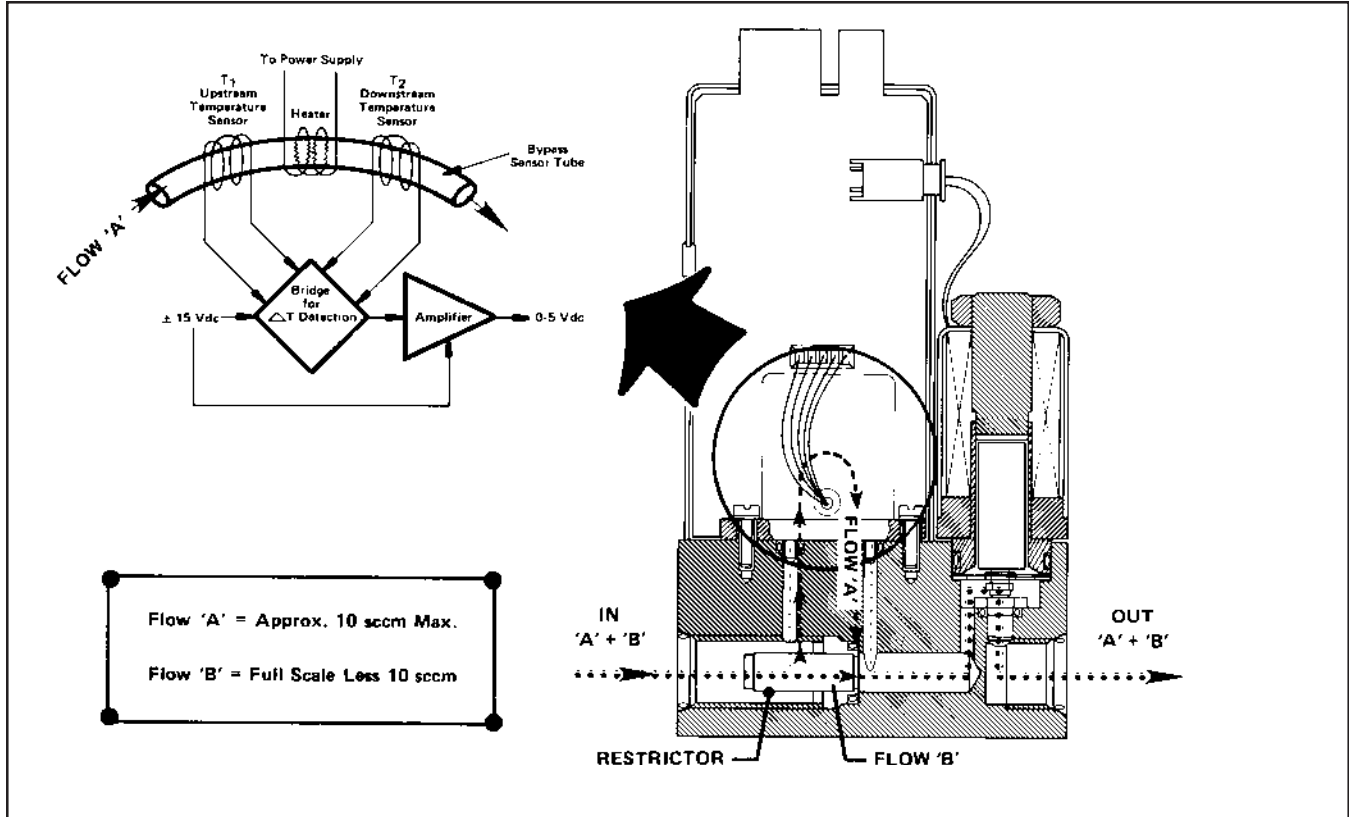

Figure 3-1 Flow Sensor Operational Diagram
The thermal mass flow sensing technique used in the Model 5851E works as follows: A precision power supply provides a constant power heat input (P) to the heater, which is located at the midpoint of the sensor tube. Refer to Figure 3-1. At zero, or no flow conditions the heat reaching each temperature sensor is equal. When gas flows through the tube the upstream sensor is cooled and the downstream sensor is heated, producing a temperature difference. The temperature difference  $T_2 - T_1$ , is directly proportional to the gas mass flow.
The flow restrictor shown in Figure 3-1 performs a ranging function similar to a shunt resistor in an electrical ammeter. The restrictor provides a pressure drop that is linear with flow rate. The sensor tube has the same linear pressure drop/flow relationship. The ratio of the restrictor flow to the sensor tube flow remains constant over the range of the meter.